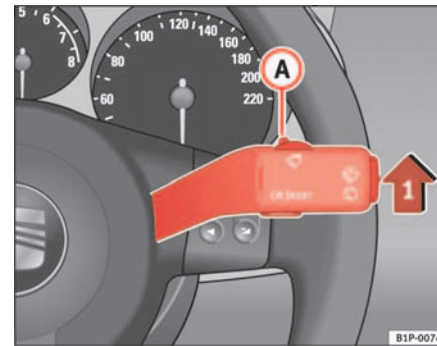

Fig. 83 Windscreen wiper lever
- Move the windscreen wiper lever into position ① ⇒ page 118, fig. 83
- Move the control ① to the left or right to set the sensitivity of the rain sensor. Switch to the right - high sensitivity. Switch to the right - low sensitivity